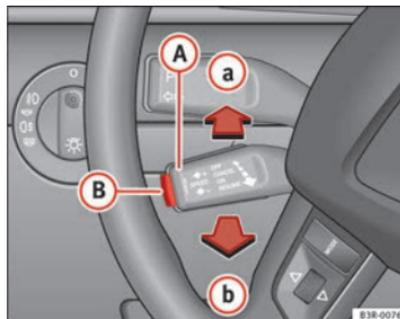

Fig. 145 Controls for the cruise control system
- Press the lever **A** \Rightarrow Fig. 145 to position **a** (click stop not engaged).